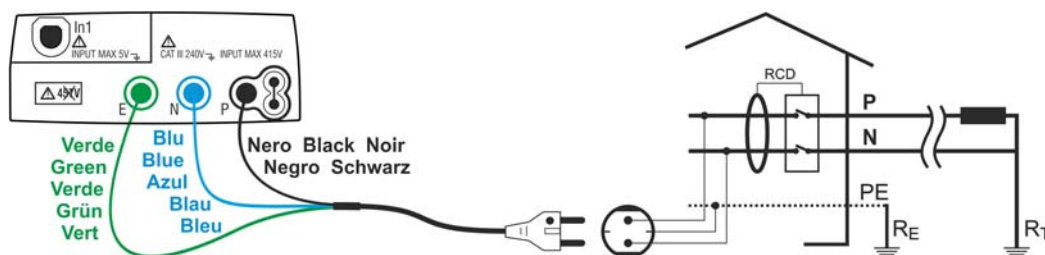
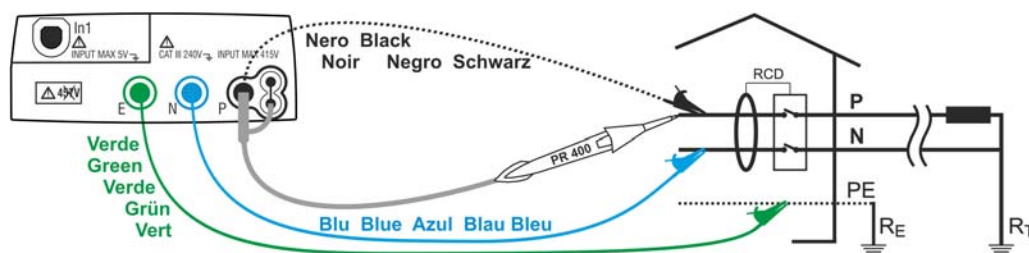
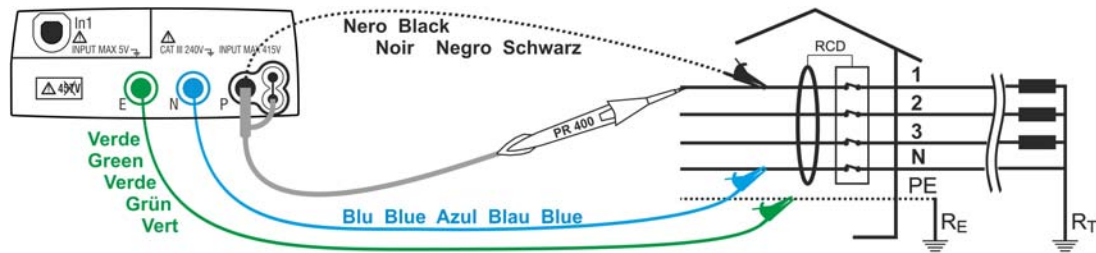
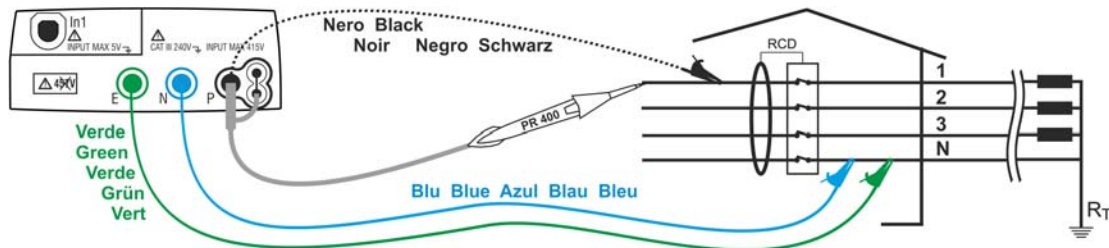

Fig. 10: Instrument connection for 230V single-phase or double-phase RCD test through shuko cable
Fig. 11: Instrument connection for 230V single-phase or double-phase RCD test by means of single cables and remote probe
Fig. 12: Instrument connection for 400V + N + PE three-phase RCD test by means of single cables and remote probe
Fig. 13: Instrument connection for 400V + N (no PE) three-phase RCD test by means of single cables and remote probe
4. Insert the green, blue and black connectors of the three-pin shuko cable into the corresponding input leads E, N and P of the instrument. As an alternative, use the single cables and apply the relevant alligator clips to the free ends of the cables. It is also possible to use the remote probe by inserting its multipolar connector into the input lead P. Connect the shuko plug, the alligator clips or the remote probe to the electrical mains according to Fig. 10, Fig. 11, Fig. 12, Fig. 13 and Fig. 14.